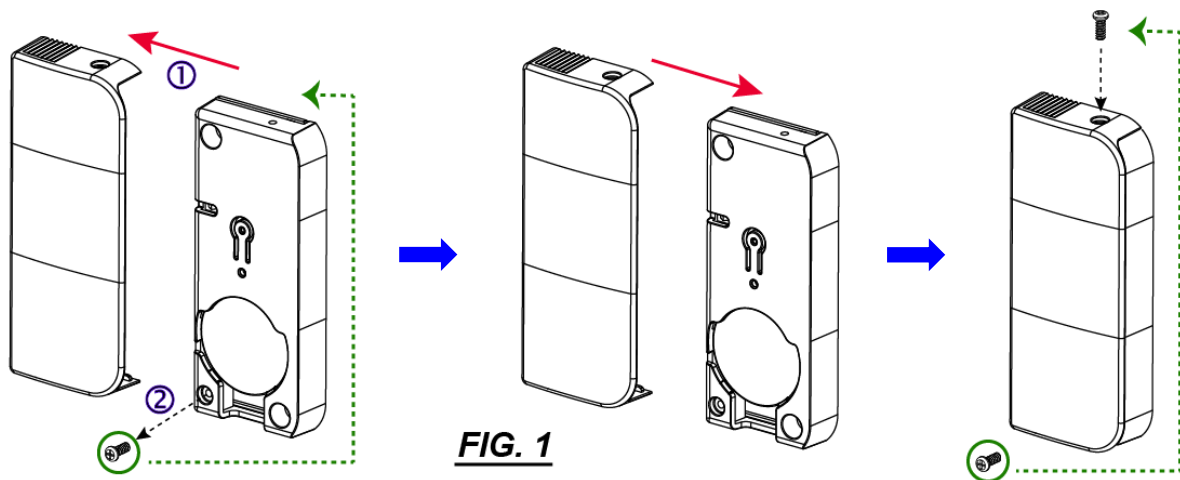

FIG. 1
The screw can be removed and then used for securing cover and the door contact. (See FIG. 1 below for details.)
- 1 Retaining Screw (see **FIG. 1** below)